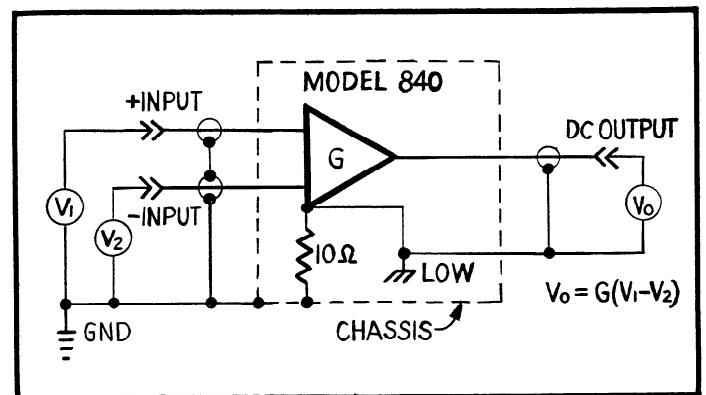

FIGURE 15. Differential Mode.
3. "DIFF" Mode. In this mode the signals of both inputs are amplified as shown in Figure 15. The output is a function of $V_1 - V_2$.